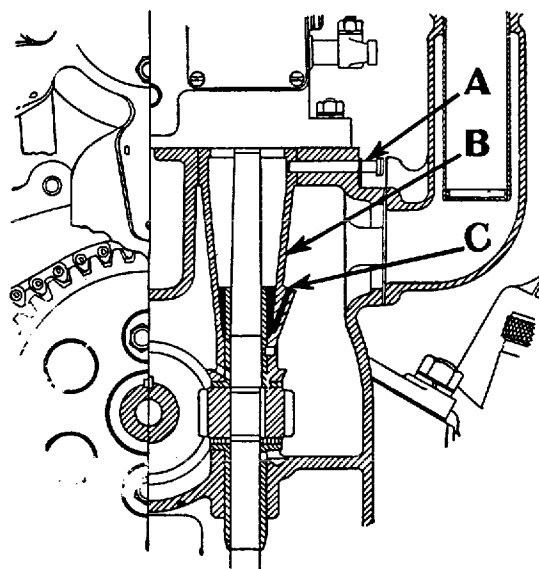

Fig. 135
Beginning with Car No. 12143 the Distributor Shaft Spacer and Bushing Assembly Part No. L-4031, "B" Fig. 135, has been changed to provide an oil seal and prevent the engine breathing through the distributor. This prevents the oil-vapor from getting into the distributor head and sooting the breaker points.
2. Remove the oil filler body and pull out the pin "A" Fig. 135 which holds the spacer in position. The spacer may now be removed by tapping lightly with a small brass drift through the oil filler opening. If the distributor driving shaft is corroded it should be removed and thoroughly cleaned. When the drive shaft is removed it will be necessary to retime the distributor when reassembling. Install the new spacer. It will be necessary to drill the hole for the locating pin "A" in place in order that sufficient clearance may be allowed for the thrust washers on the distributor driven gear. The best way to accomplish this is to take a piece of paper about .005 thick and cut a washer which will fit over the shaft on top of the distributor driven gear, then tap the spacer into position and mark the center of the locating hole by inserting pin "A" into crankcase and tapping with a hammer. This will mark the desired center with a circle about $\frac{1}{8}$ " diameter. Remove spacer and mark the center with a sharp punch and drill with a new $\frac{1}{4}$ " drill. Do not forget to remove the paper washer when reassembling spacer. This will give the desired .005 clearance. Replace spacer locating pin and oil filler. Before assembling distributor to crankcase see that distributor drive shaft is free. If such is not the case the spacer may be turned and another hole drilled for the locating pin.